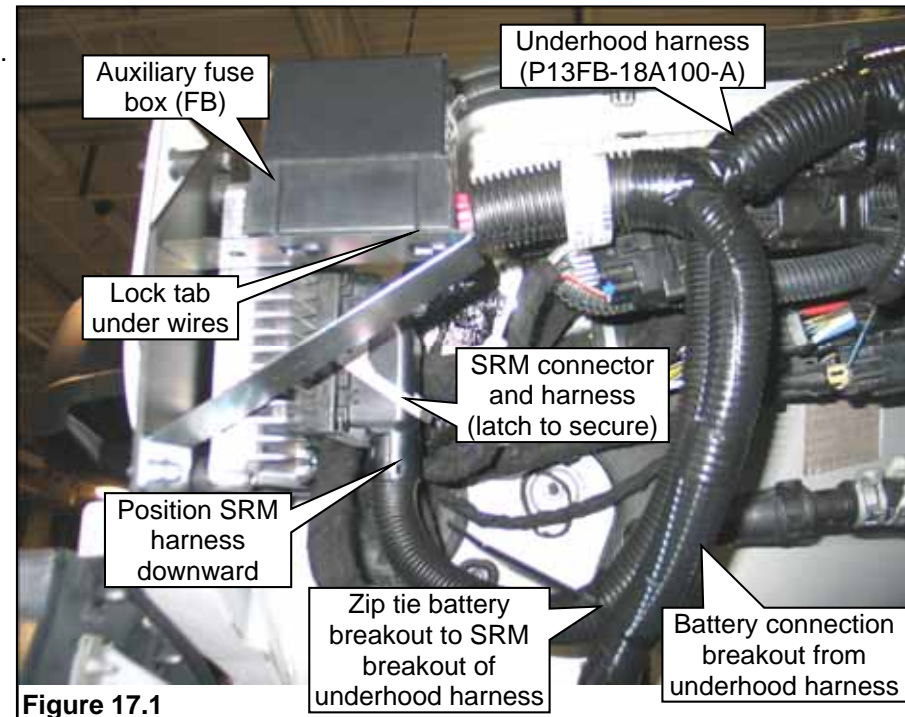

Figure 17.1
2. Attach the SRM connector (C4) to the SRM, push the connector into place until fully seated and close the connector latch securely. **Note:** The SRM connector must be oriented downward for proper harness installation. **Figure 17.1.**
3. Position the auxiliary fuse box (part of harness) onto the bracket and slide it in until locked in place. Check to make sure that the fuse box tabs are fully seated and that the lock tab is latched. **Figure 17.1.**